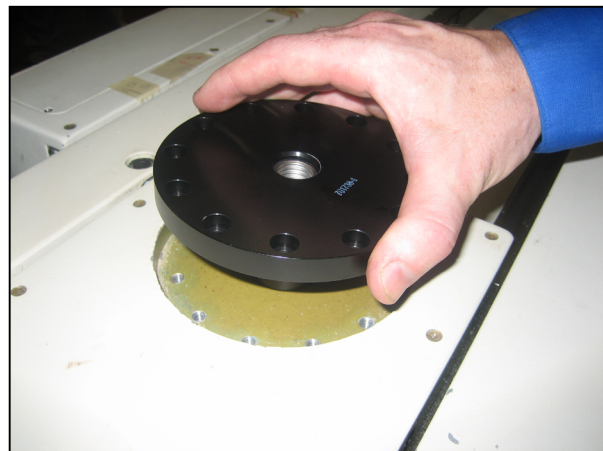

Fig. 4
9. Place the Qfix Front Mount into the recess and replace the (12) $\frac{1}{4}$ -20 screws using the $\frac{3}{16}$ " Allen wrench (Fig. 4).